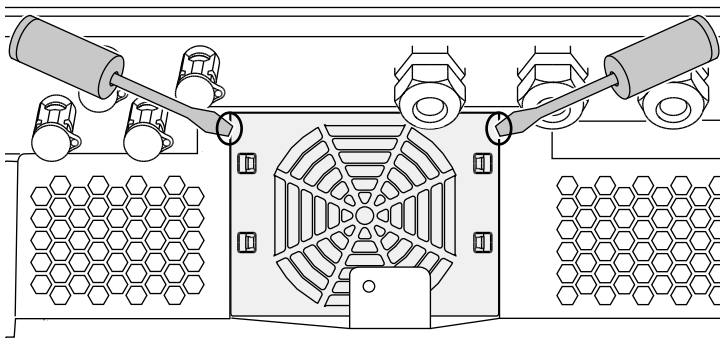

Fig. 69: Loosen fan grill
2. Dismantle the fan. To do this, place a screwdriver at the edge of the fan grill and apply a little pressure to the fan grill. ➡ Fig. 69